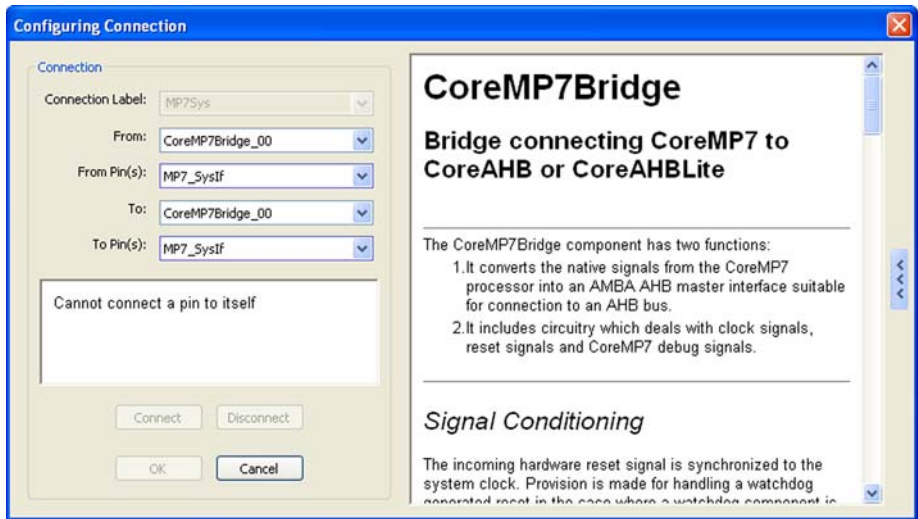

Figure 5-6. CoreConsole Configuring Connection Dialog Box
5. Click the **Connect** icon, the first icon from the left, which resembles a power plug. When you have done this, the Configuring Connection dialog box appears, as shown in Figure 5-6.